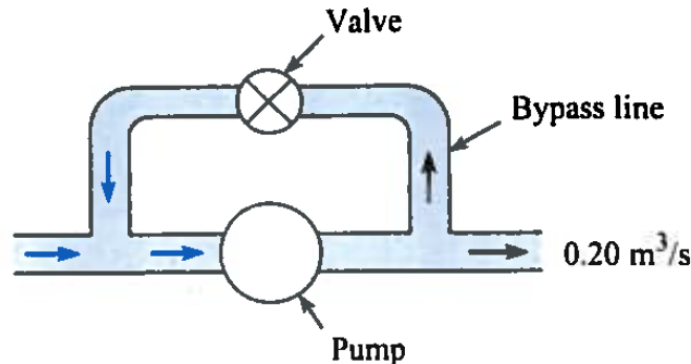

Figure 2:
4. In the design of a lift station, a bypass line is often installed parallel to the pump so some liquid recirculates as shown on Figure 2. The bypass valve then controls the flow rate in the system.